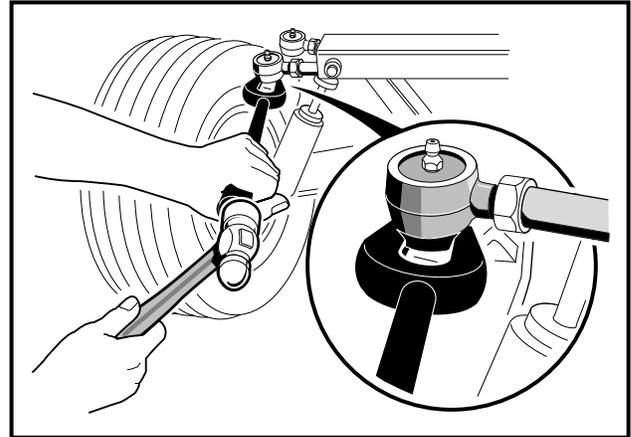

Figure 7-6 Remove Ball Joint
3. Remove ball joint (23) (**Figure 7-13, Page 7-11**) from spindle assembly (**Figure 7-6, Page 7-7**).
2. Remove the ball joints **(Figure 7-6, Page 7-7)**.